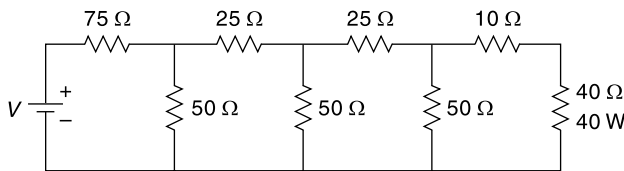

Fig. 4.180
19. For the ladder network shown in Fig. 4.180, find the applied voltage V .